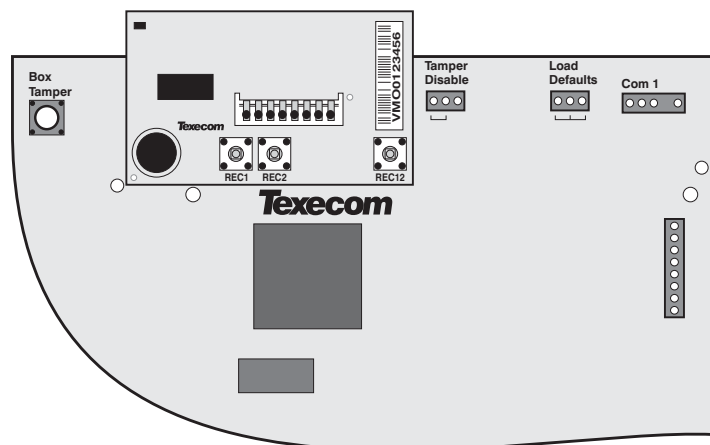

Figure 2. *Speech Module* Installed on Control Panel PCB
- 2) Plug the *Speech Module* (see Figure 2) onto the 8 way plug (SK1) of the control panel.